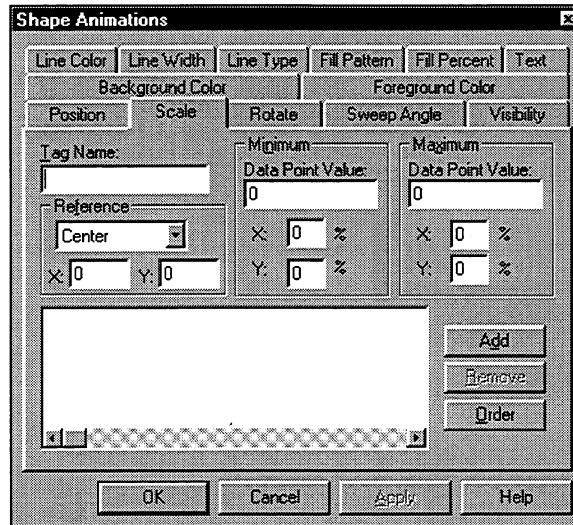

Figure 7-11. Scale Animation Page
3. Select the Scale tab to access the Scale animation page, as shown in Figure 7-11.